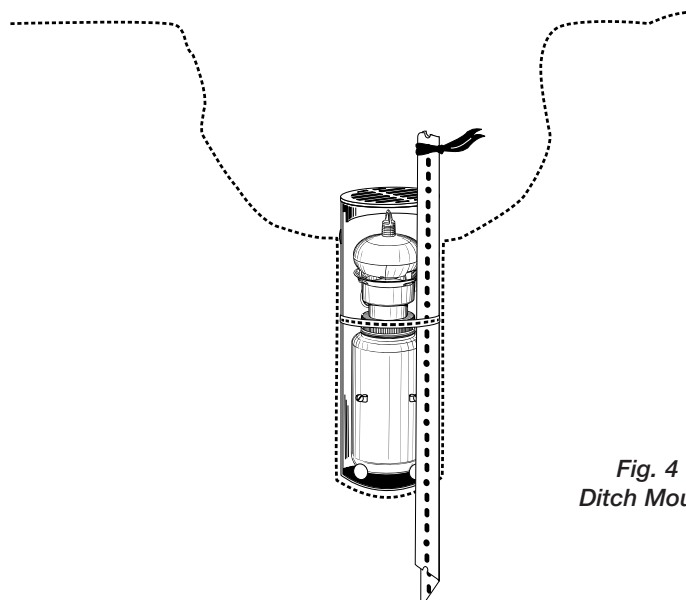

Fig. 4
b. **Ditch Mounting** (Figure 4.)